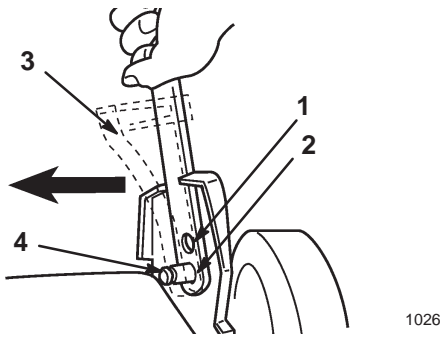

Figure 3
You can set the handle to two height settings: high and low (Fig. 3). Select the handle height setting most comfortable for you.
1. Squeeze the bottom handle section (both sides) inward off of the pins (Fig. 3).